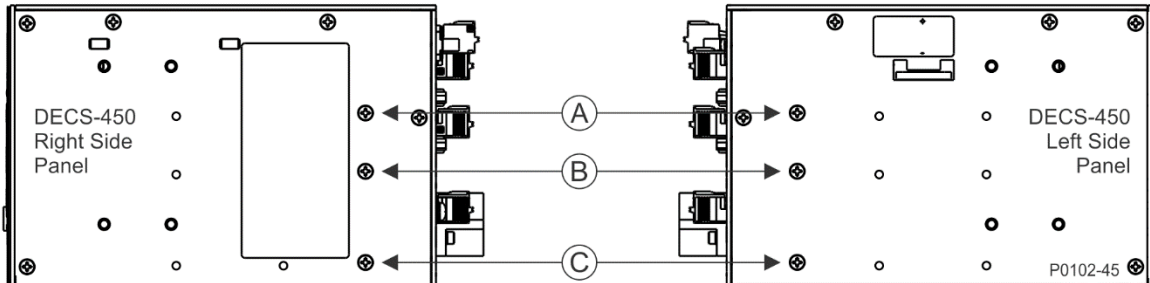

Figure 15-7. Mounting Screw Locations
1. Remove the six DECS-450 screws shown in Figure 15-7 (locators A, B, and C). Three screws are located on the left side of the DECS-450 and three screws are located on the right side of the DECS-450.
2. Slide the transition plate assembly onto the rear of the DECS-450 as shown in Figure 15-5. Align the lowermost mounting holes of the transition plate assembly with those of the DECS-450 (Figure 15-7 locator C). Install two of the supplied screws in the lowermost mounting holes so that the transition plate is attached to the DECS-450 but can be rotated away from the DECS-450 and allow access to the DECS-450 terminals. See Figure 15-5.
7. Rotate the transition plate assembly into position on the DECS-450 and align the remaining mounting holes. Ensure that no wires or cables are pinched between the DECS-450 and transition plate. Install the remaining four supplied screws, two per side, as shown in Figure 15-7 (locators A and B).